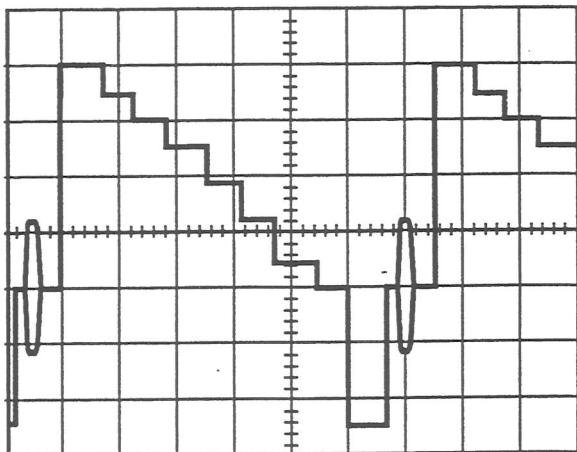

figure 11
- . positive edge (15): (LED off)
- . sweep speed (18): 10 µs/div
- Select the appropriate vertical sensitivity for the amplitude of the signal, so that the image covers approximately 80% of the height of the screen. Adjust the alignment as required. The image displayed corresponds to a complete TV line (64 µs). The sync pulse, chrominance burst and video content are clearly visible (figure 11).